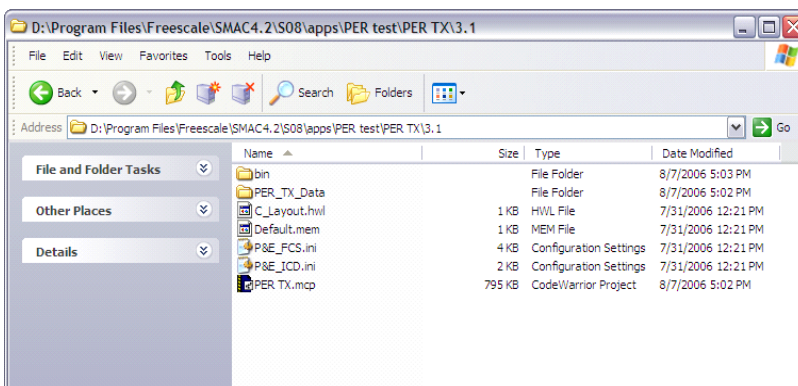

Figure 17. PER TX MCP File Location
1. Open the `PER_TX.mcp` file as shown in Figure 17. Load the PER TX application into one board as shown in Section 2.4, “Loading Applications Into a Board Using the BDM”.